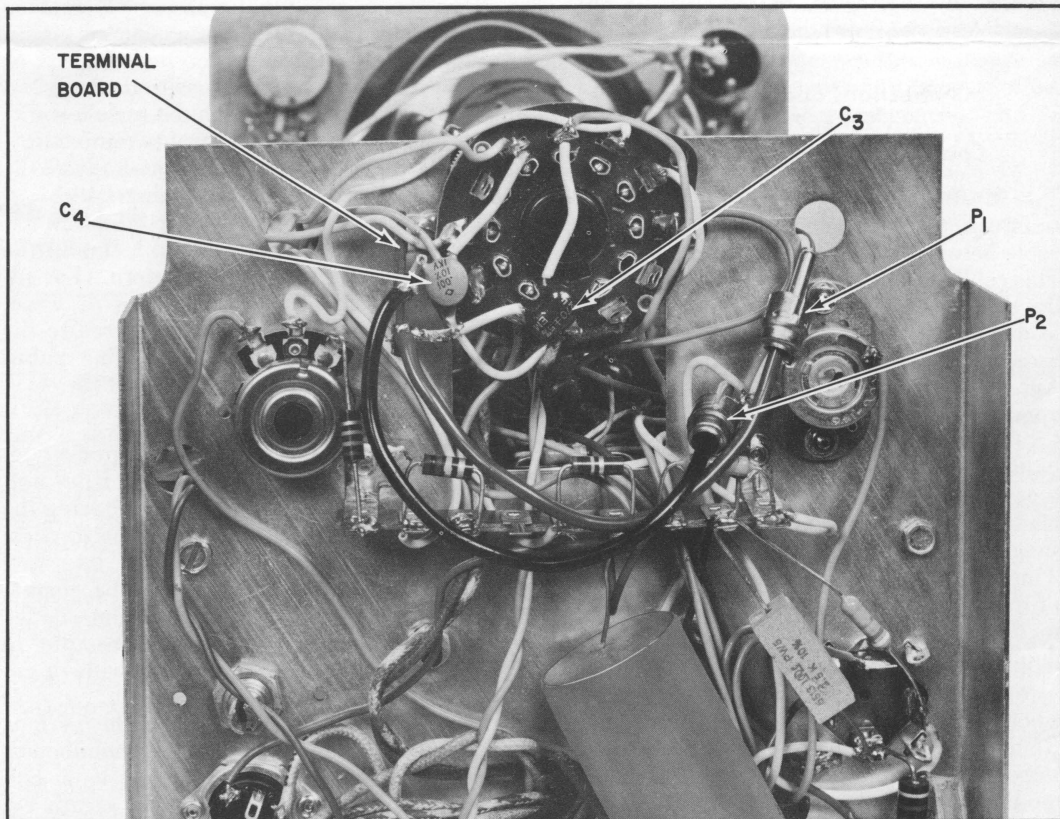

Figure 4: Rear section of chassis at CRT socket showing wiring and connections.
box and assemble the parts. During assembly, make certain that the adjusting screw at C_2 lines up with the "Adj." hole (Figure 4).
4. Mount the terminal strip on the oscilloscope chassis to the left of the CRT, as shown in Figure 4. Connect the 270-picofarad and 0.001-microfarad capacitors on the terminal board to CRT socket pins 7 and 6. Then connect the two 5-inch leads to the terminal board.